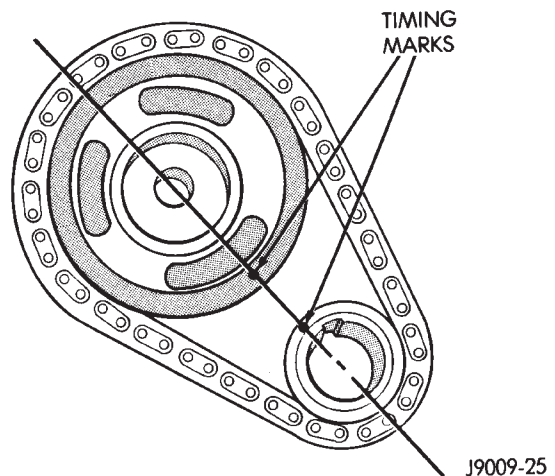

Fig. 48 Timing Chain Alignment
(7) Remove the serpentine drive belt.
(8) Remove the crankshaft vibration damper.
(9) Remove the timing case cover. Clean the gasket material from the cover.
(10) Rotate crankshaft until the crankshaft sprocket timing mark is closest to and on the center line with the camshaft sprocket timing mark (Fig. 48).
- (1) Clean the camshaft pin hole.
- (2) Compress the center of the replacement spring pin with vise grips.
- (3) Carefully drive the pin into the camshaft pin hole until it is seated.
(4) Install the camshaft sprocket, crankshaft sprocket and timing chain with the timing marks aligned (Fig. 48).